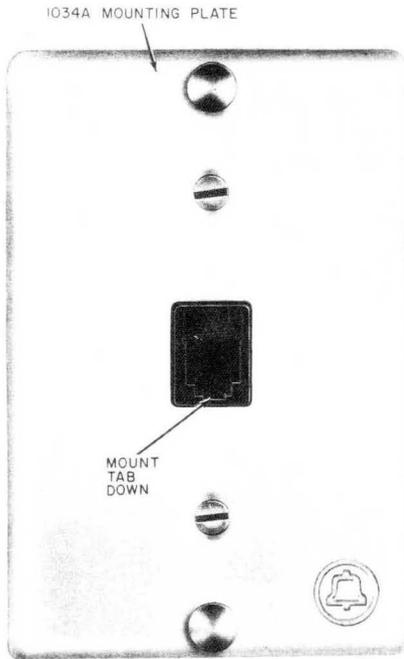

Fig. 7—630A4 Connecting Block (With Mounting Plate)◆
3.11 **630A4 Connecting Block:** This block (Fig. 7) may be flush mounted on a 63-type bracket or electrical type outlet box or surface mounted on a wall. In all cases, the block should
lie flat against the wall with connector springs oriented to the top and tab to the bottom (Fig. 7).